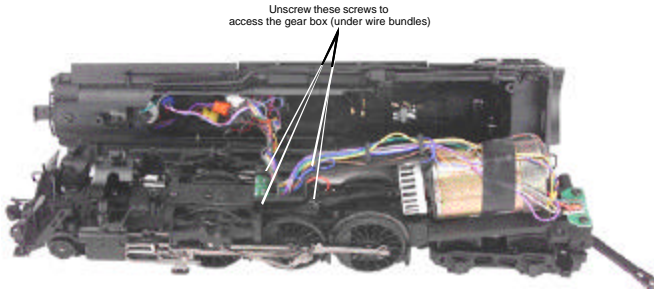

Figure 8: Opening The Gearbox
3. Remove the Phillips screw (marked “GREASE”) located at each set of wheels (Fig. 6) and the gearbox cover screws (Fig. 8).